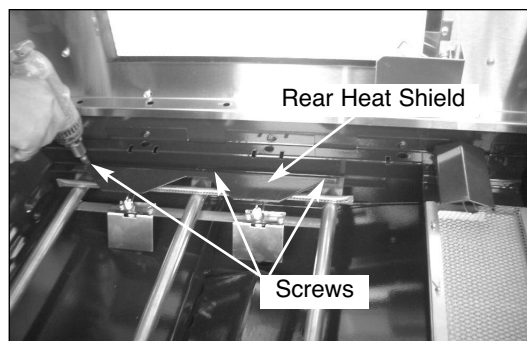

Fig 4
4. Using a 1/4" socket remove the (3) screws holding the rear heat shield and burners in place. (See Fig. 4)
31. Use the screws removed in step 4 to secure the rear heat shield and burners in place. (See Fig. 4 on page 2)